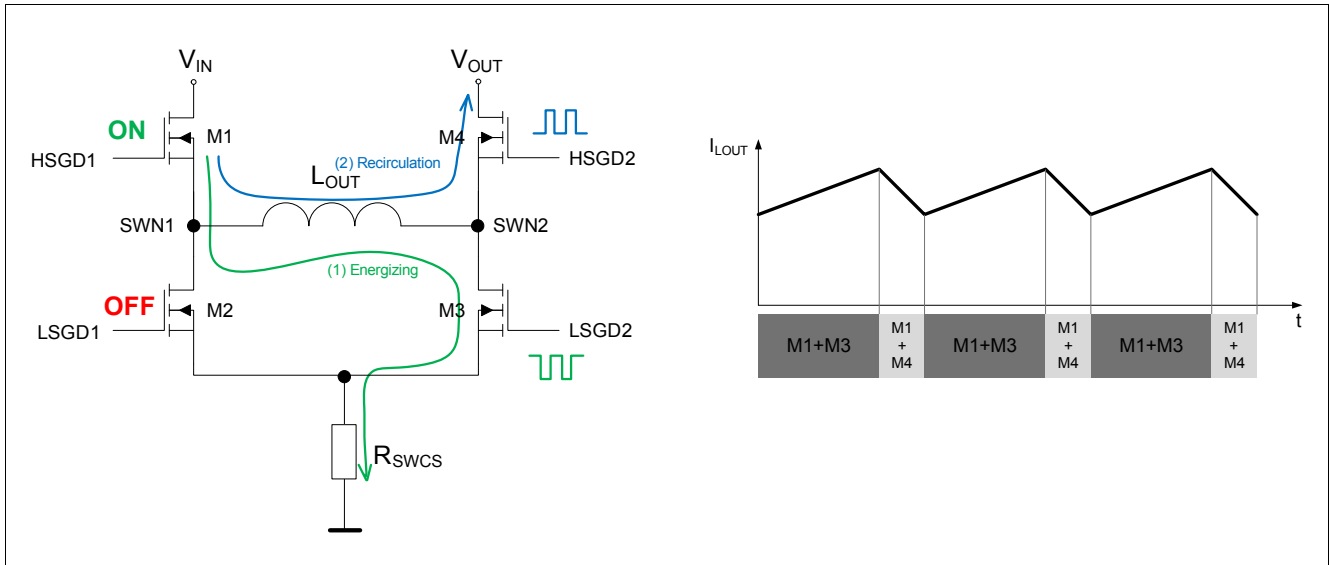

Figure 10 4 switches H-Bridge architecture in BOOST mode
- Switches M3 and M4 alternate, behaving like a typical synchronous boost Regulator (see Figure 10)